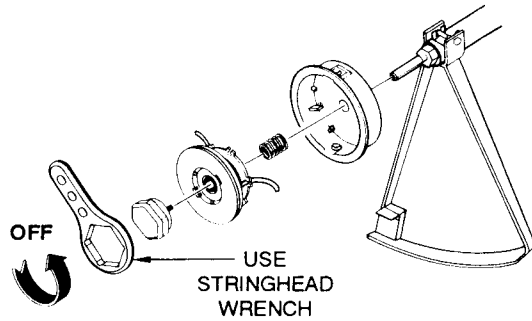

Figure 8-2A
3. Remove any remaining cutter line. (Figure 8-2A)